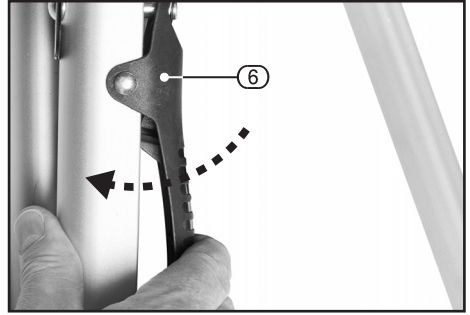

FIG.21
9.4 TRANSPORTATION – FIGS.21 – 24